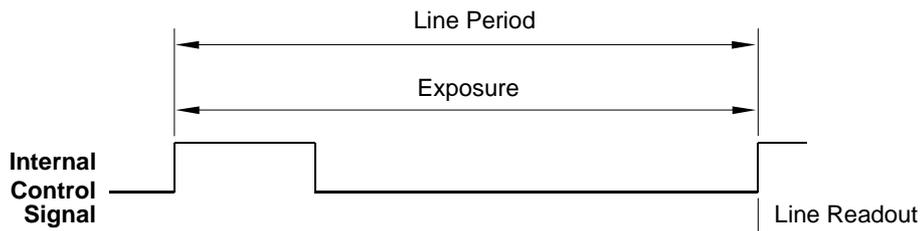

Fig. 25: Free Run, Edge Controlled Mode
- In **free run edge controlled** mode, line acquisition begins on the rising edge of the internal control signal. The pixels are exposed and charge is accumulated over the full line period (from rising edge to rising edge of the internal control signal). The falling edge of the control signal is irrelevant. The pixel values are read out of the sensor on the rising edge of the internal control signal as shown in Figure 25. The line period is determined by the setting for the line period parameter.